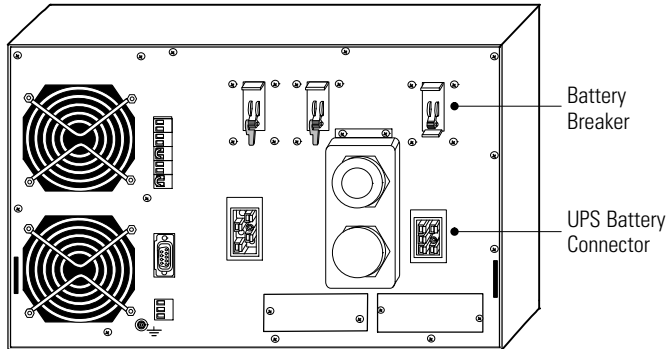

Figure 15. BladeUPS Module Rear Panel
2. Verify that the BladeUPS battery breaker is open (O), as shown in Figure 15 on page 27.
2. Verify that the BladeUPS battery breaker is open (O), as shown in Figure 15.
6. Close the BladeUPS battery breaker (|) (see Figure 15).